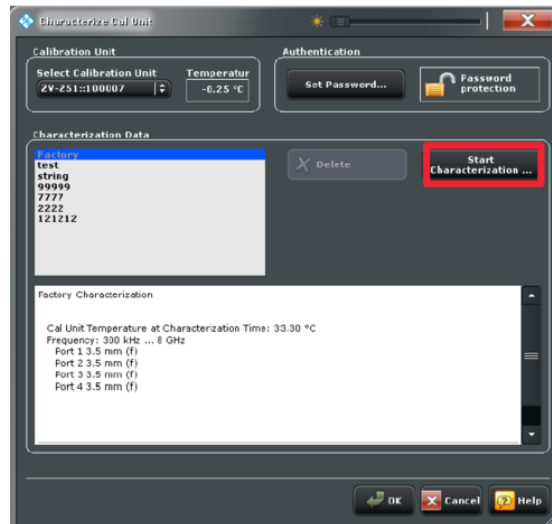

Fig. 3-2: Calibration unit Characterization configuration
- Select *Start Characterization* as shown in Fig. 3-2